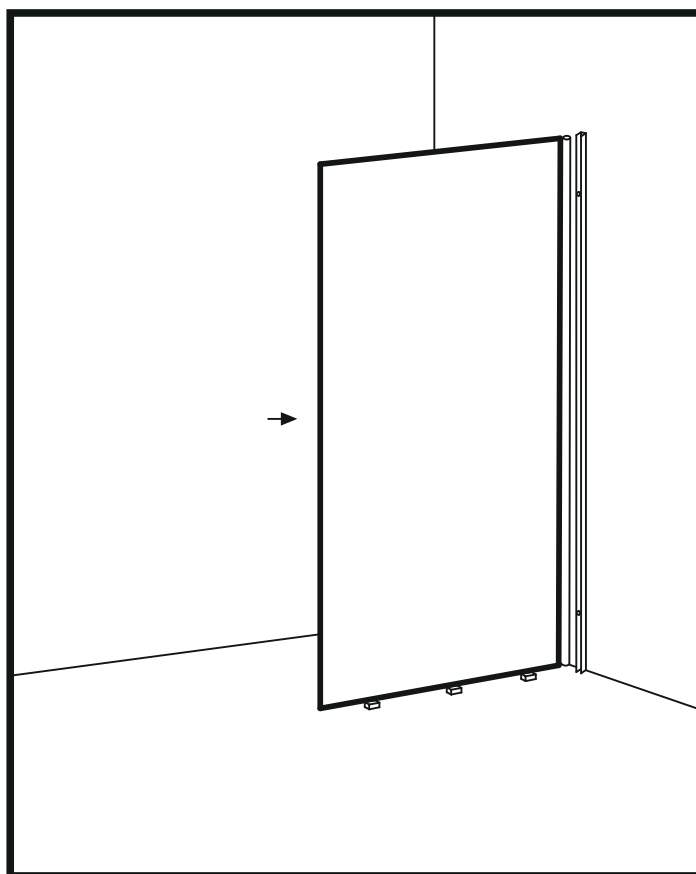

Figure 4
8. Place wooden blocks (max. thickness 1 cm) on the floor, where you can support the door glass in the package, which has a mono-hinge already installed by the manufacturer. (Figure 4)